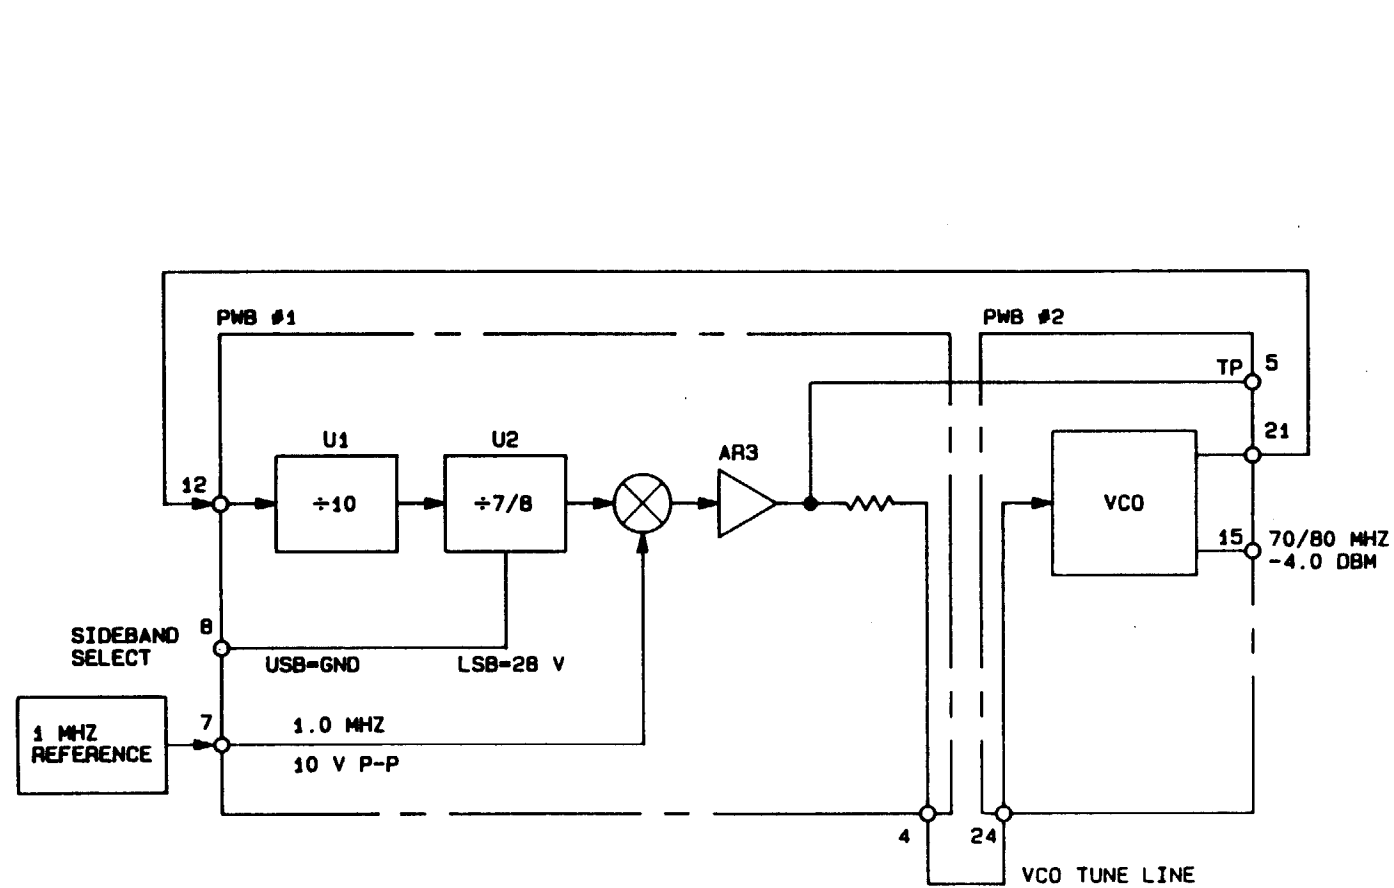

Figure 2-10. 70/80 MHz Voltage-Controlled Oscillator (VCO)
**70/80 MHz VOLTAGE-CONTROLLED OSCILLATOR (VCO), fig 2-10**